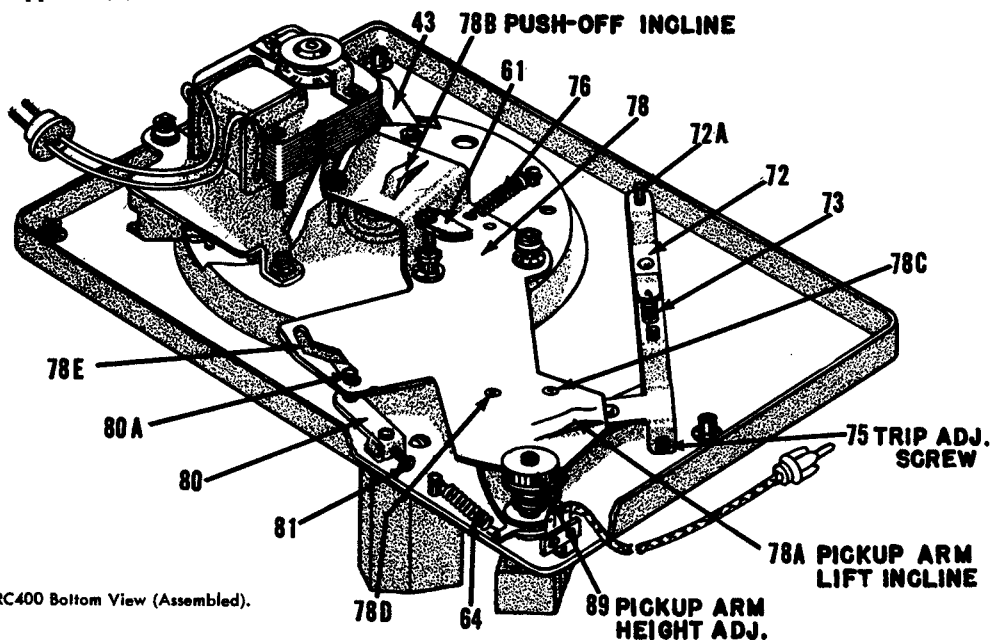

Figure 4. RC400 Bottom View (Assembled).
If the record changer does not trip at the proper position, it will be necessary to adjust the trip adjusting screw (75). See figure 4. Turning this screw in (clockwise) moves the trip point away from the centerpost. Turning it out, moves the trip point nearer to the centerpost.
(See Figures 4 and 5)